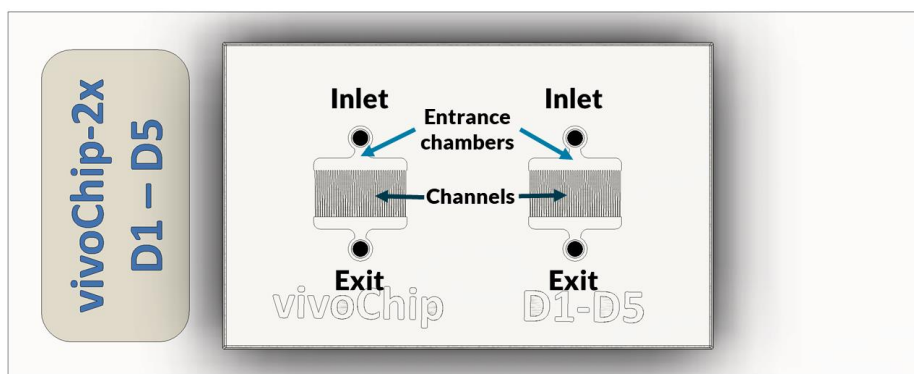

Figure 12: Top-down view of vivoChip-2x showing inlets and exits of microfluidic devices
- Take note of the locations of the inlet and exit holes of the vivoChip-2x as shown in Figure 12.
- 4.3 Connect the metal coupler at the end of the exit tubing (to which a metal coupler is attached but no luer stub) to the exit port (see Figure 12) of one of the microfluidic devices (left or right) of the vivoChip-2x.
- b Keeping the coupler vertical, gently push the end of the coupler into the vivoChip-2x exit port (see Figure 12), keeping the glass coverslip on the bottom of the vivoChip-2x held against the hard, flat work surface.
- 4.8 Using the method described in 4.3, immediately connect the metal coupler at the end of the input tubing (currently connected to the syringe) to the inlet port of the same microfluidic device of the vivoChip-2x (see Figure 12) connected to in step 4.3.